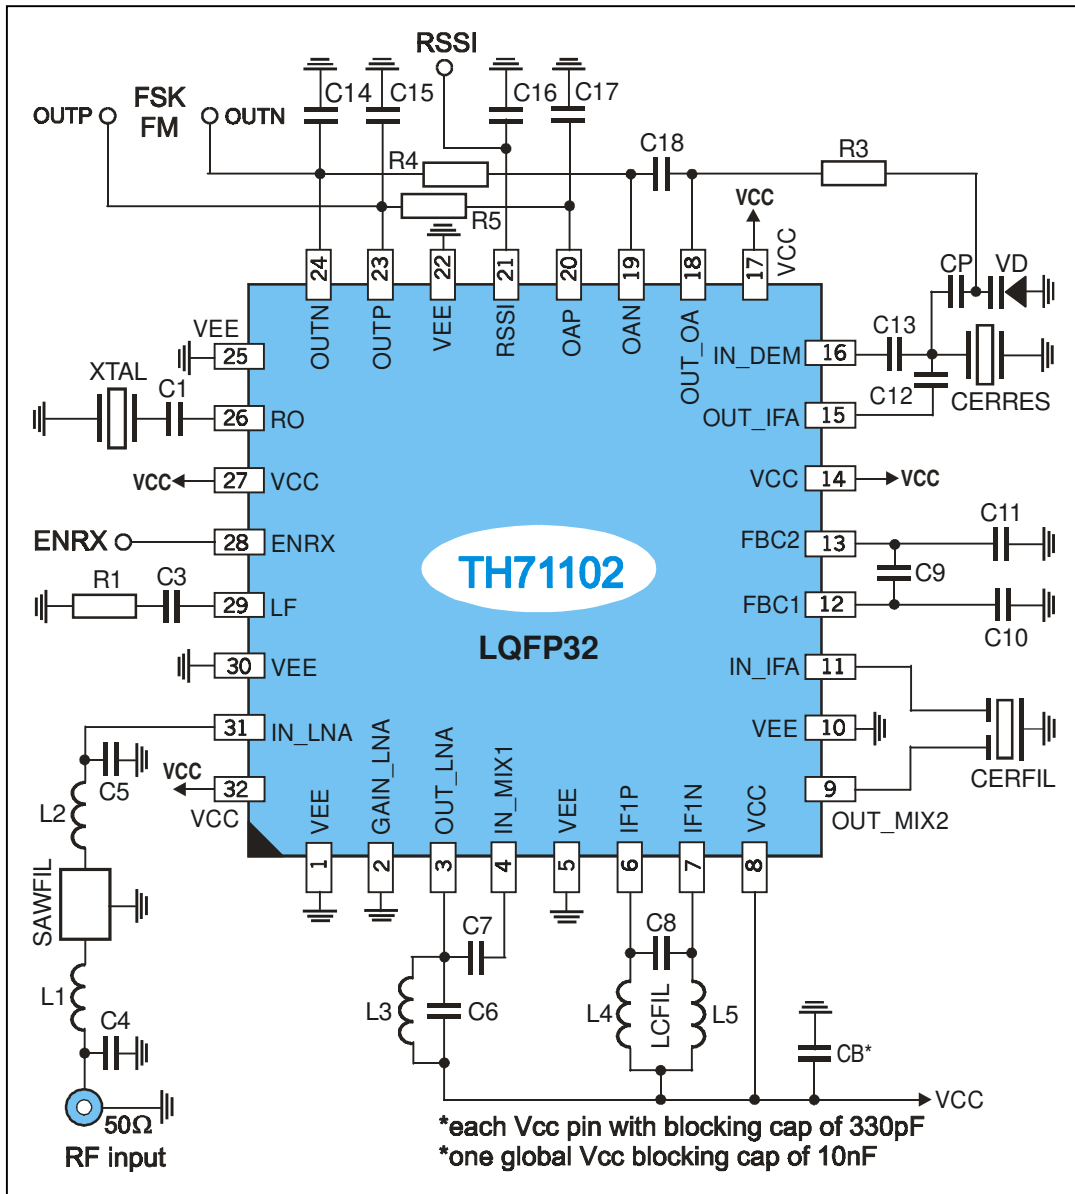

Fig. 3: Test circuit for FSK/FM with AFC and resonator compensation
4.4 FSK/FM (with AFC) test circuit component list (Fig.3)